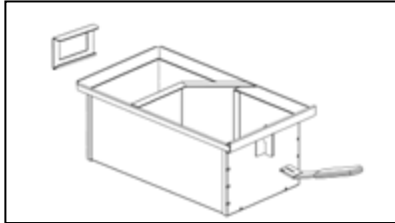

Figure 12-8: Carrying ash pan
- When carrying the ash pan use both the multi-purpose tool and the ash pan carrying handle (also provided with the boiler). Refer to Figure 12-8.